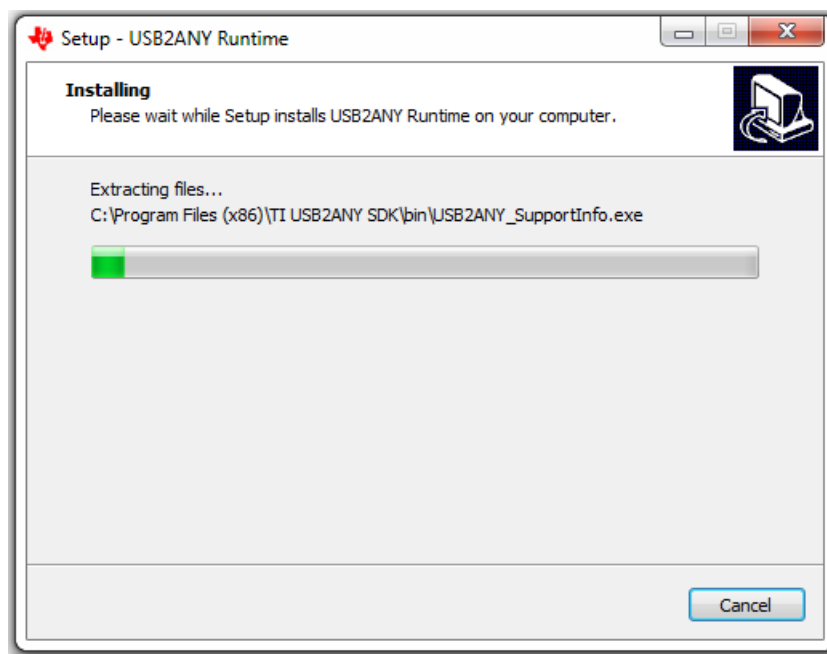

Figure 26. USB2ANY Installation Progress
13. The installer begins self-extraction and proceeds with the installation as shown in Figure 26.